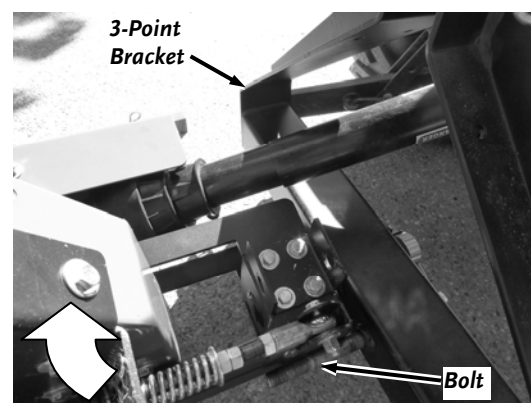

Figure 30
- Lift the Trimmer Body up to a vertical position. With the head of the Bolt facing the Tractor, install the Bolt all the way into the transport hole of the 3-Point Bracket (**Figure 30**).